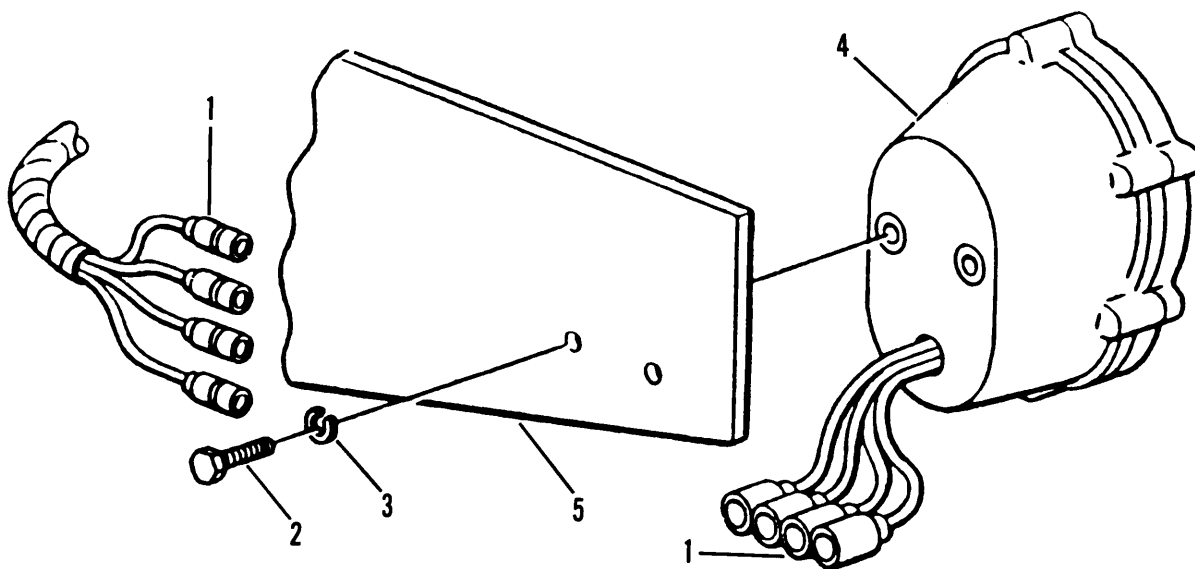

Figure 4-8. Composite Light
- (1) Pull connectors (1, fig. 4-8) apart.
- (2) Remove two screws (2) and lockwashers (3) that hold composite light assembly (4) to frame (5).
- (3) Remove composite light assembly (4).
- (1) Install composite light assembly (4, fig. 4-8) on frame (5) and secure with two lockwashers (3) and screws (2).
(2) Connect cable connectors (1).